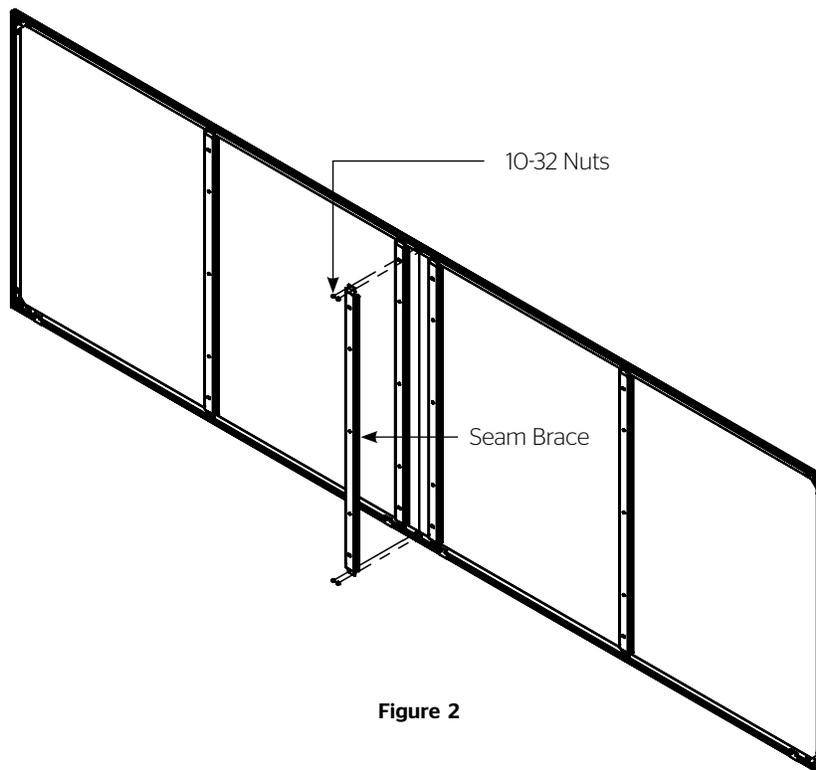

Figure 2
5. Use $\frac{3}{8}$ " open wrench or socket driver and (4) 10-32 nuts to attach seam brace onto the studs on the top and bottom of screen frame at the center seam. Tighten all four nuts once attached to the frame (Figure 2).